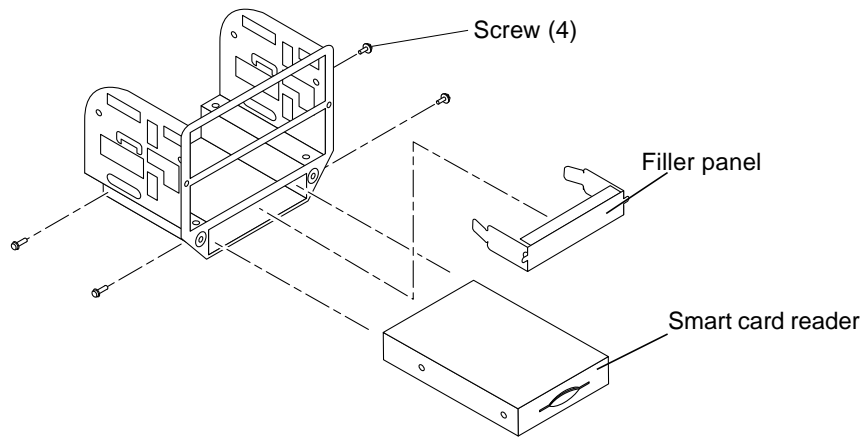

FIGURE 7-4 Removing and Replacing the Smart Card Reader
1. **Position the peripheral assembly on a flat surface so that the smart card reader is flat** (see FIGURE 7-4).